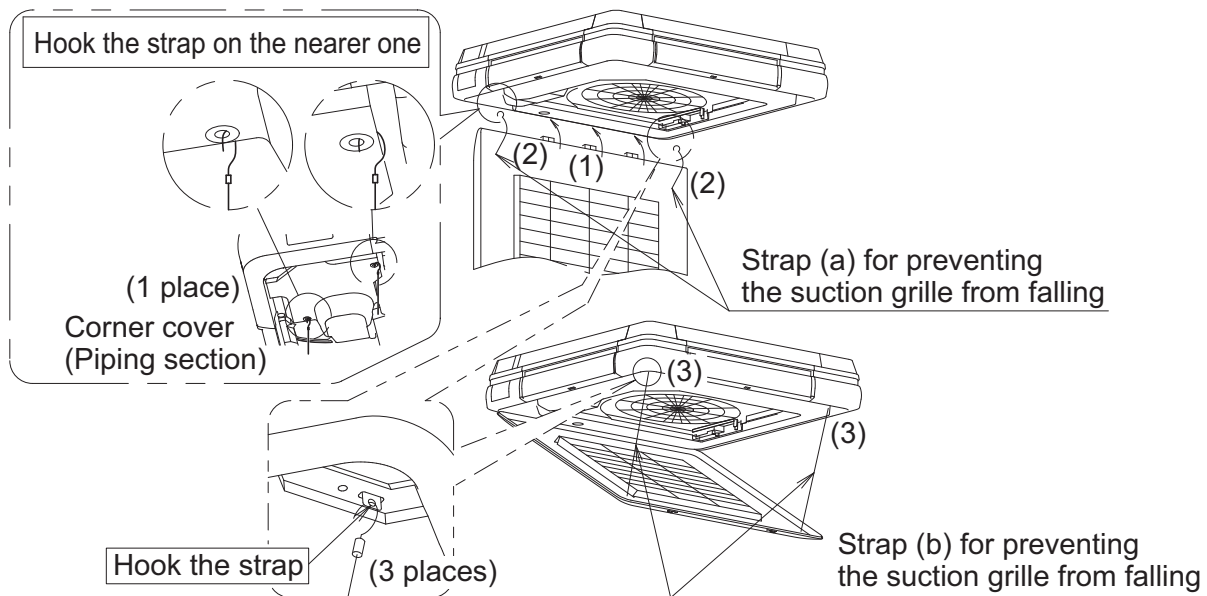

Fig. 49
- After attaching the suction grille in opposite order mentioned in the clause “**4. PREPARATION BEFORE INSTALLATION - (3)**” **(Refer to Fig. 49-(1))**, hook the strap (a) for preventing the suction grille from falling **(Refer to Fig. 49-(2))**.
- Hook the strap (b) for preventing the suction grille from falling. **(Refer to Fig. 49-(3))**